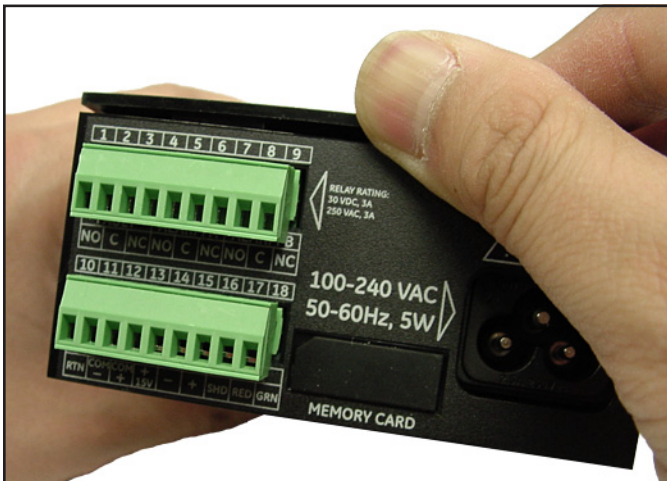

Figure 5: Lifting the Back Edge of the Cover
3. Lift the back edge of the top cover (see *Figure 5* below).